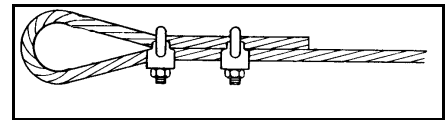

**Figure 3.16**
1. Assemble winch handle by sliding handle over flat sides of input shaft and fasten with 1/2" hex locknut as shown in Figure 3.16.